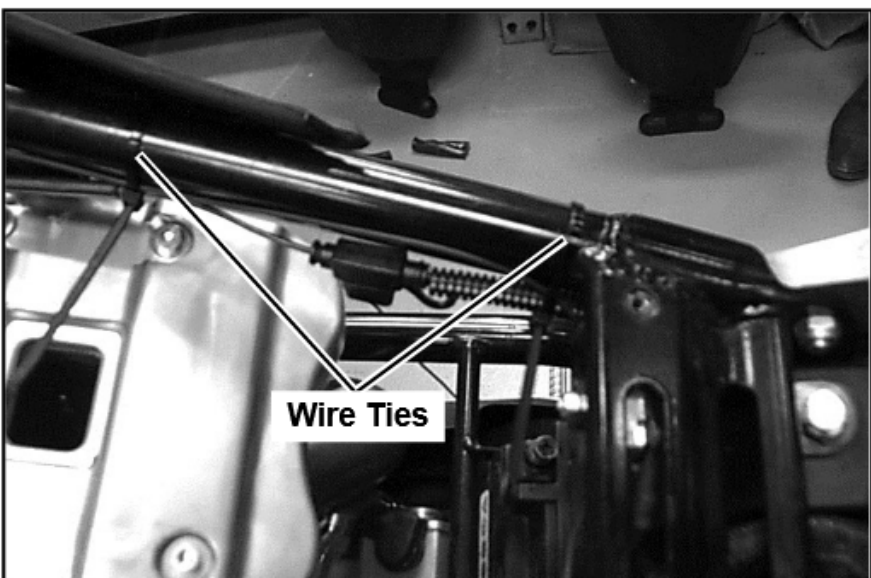

**Figure 9. Connect Harnesses to Thermostat**
17. See Figure 9. Connect spade terminal wire from each harness to the spade terminals located on the thermostat switch. Order of connection makes no difference.